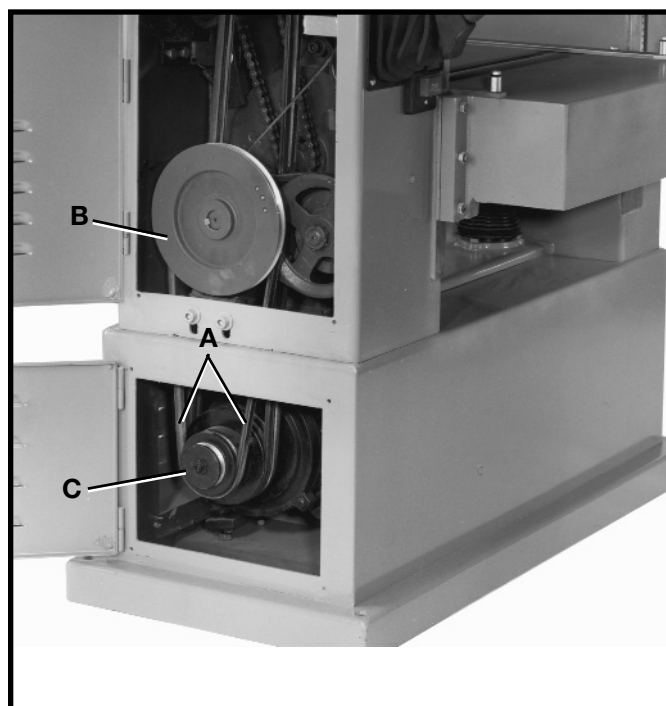

Fig. 30
Proper tension on the feed roller belt is obtained when there is approximately 1/2 deflection, using light finger pressure on feed roller belt (A) Fig. 30. midway between pulleys (B) and (C), with feed roller lever (D) engaged. If an adjustment is necessary, proceed as follows:
- Engage feed roller lever (D) Fig. 30.